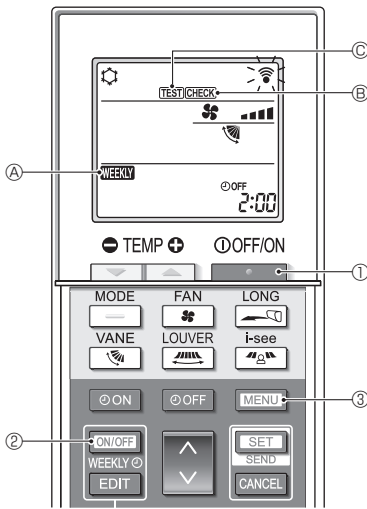

Fig. 5-1
1. Testrun (Fig. 5-1)
- Press the **STOP** button ① to stop the air conditioner.
- If the weekly timer is enabled (**WEEKLY** ④ is on), press the **ON/OFF** button ② to disable it (**WEEKLY** ④ is off).
- Press the **MENU** button ③ for 5 seconds.
- CHECK** ⑤ comes on and the unit enters the service mode.
- Press the **MENU** button ③.